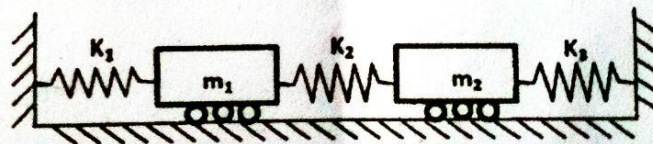

Figure.14 (a)(i)
14. (a) (i) Derive the equation of motion for the system shown in Figure.14 (a) (i). (8)